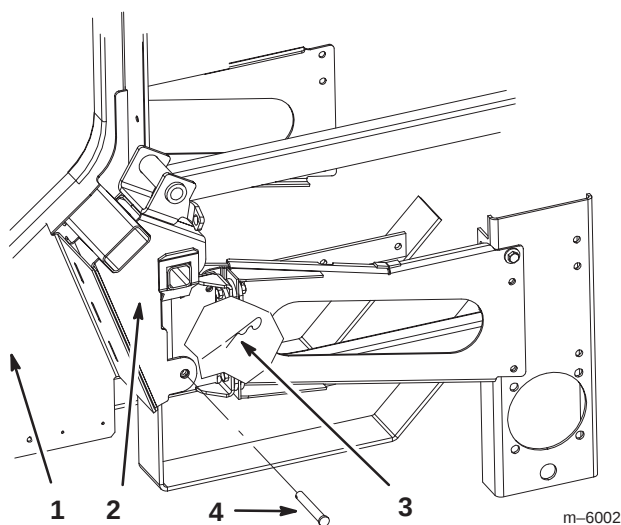

Figure 12
1. Install the bagger onto the bagger mounting bracket (Fig. 12).
2. Install clevis pins into the bagger and bagger bracket. Secure with hairpin cotters (Fig. 12).